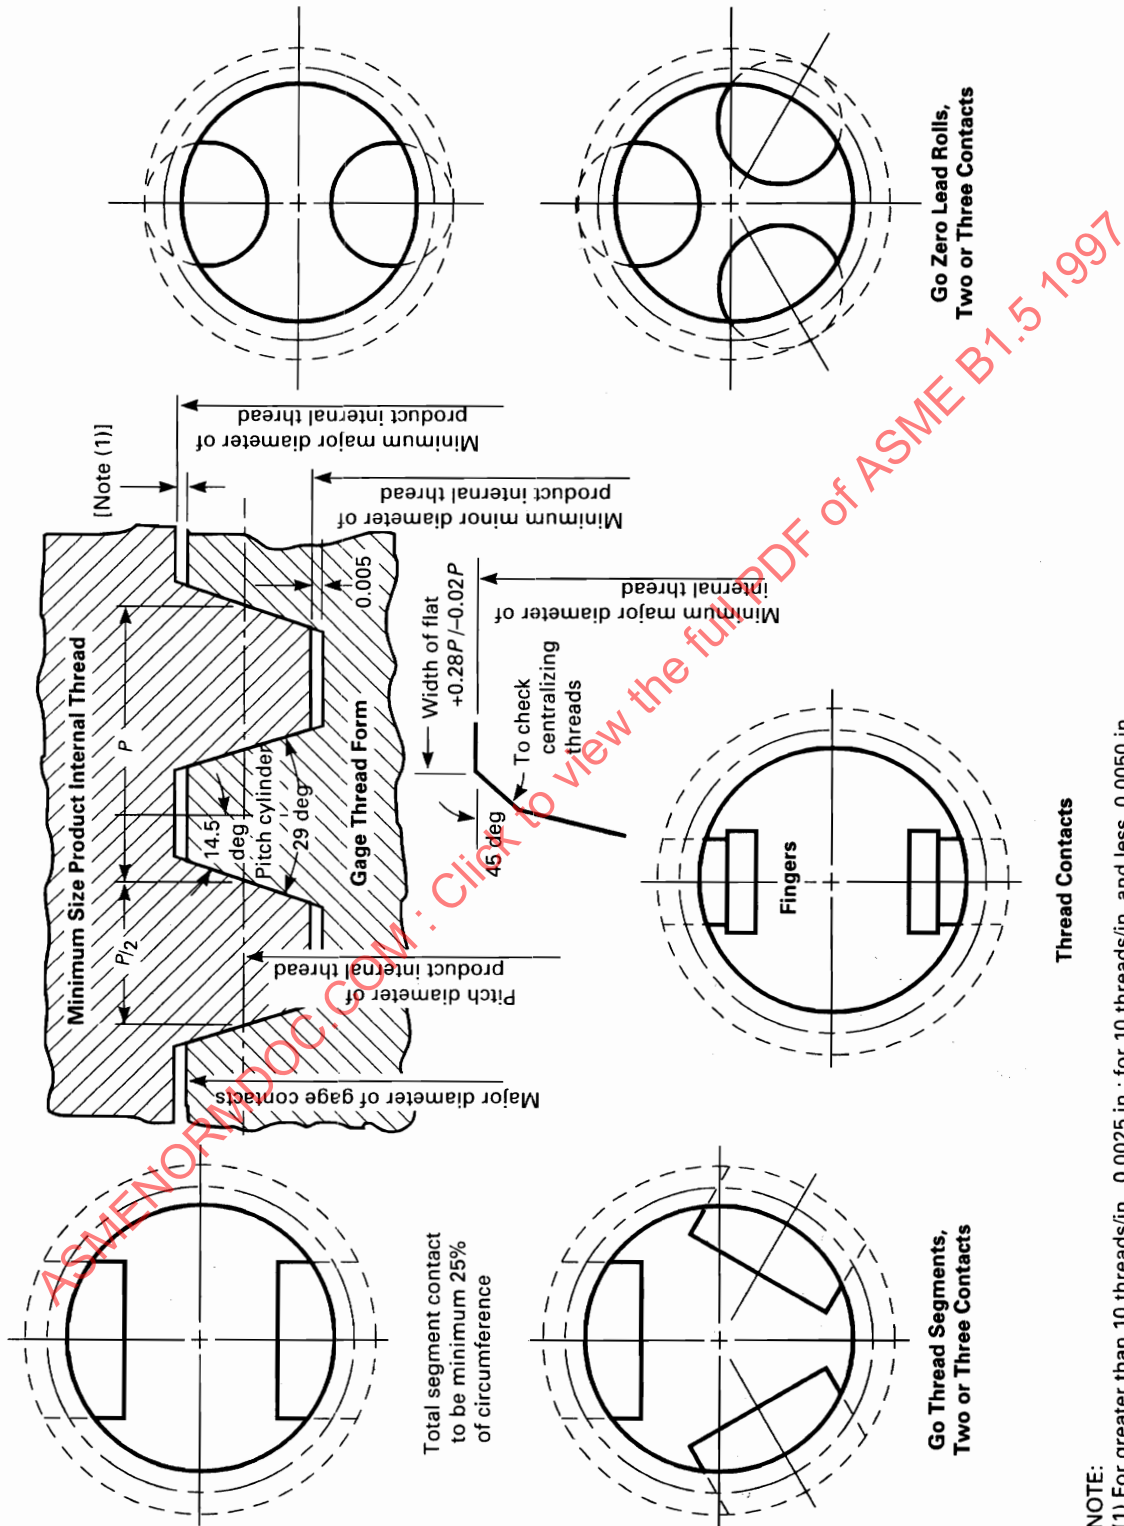
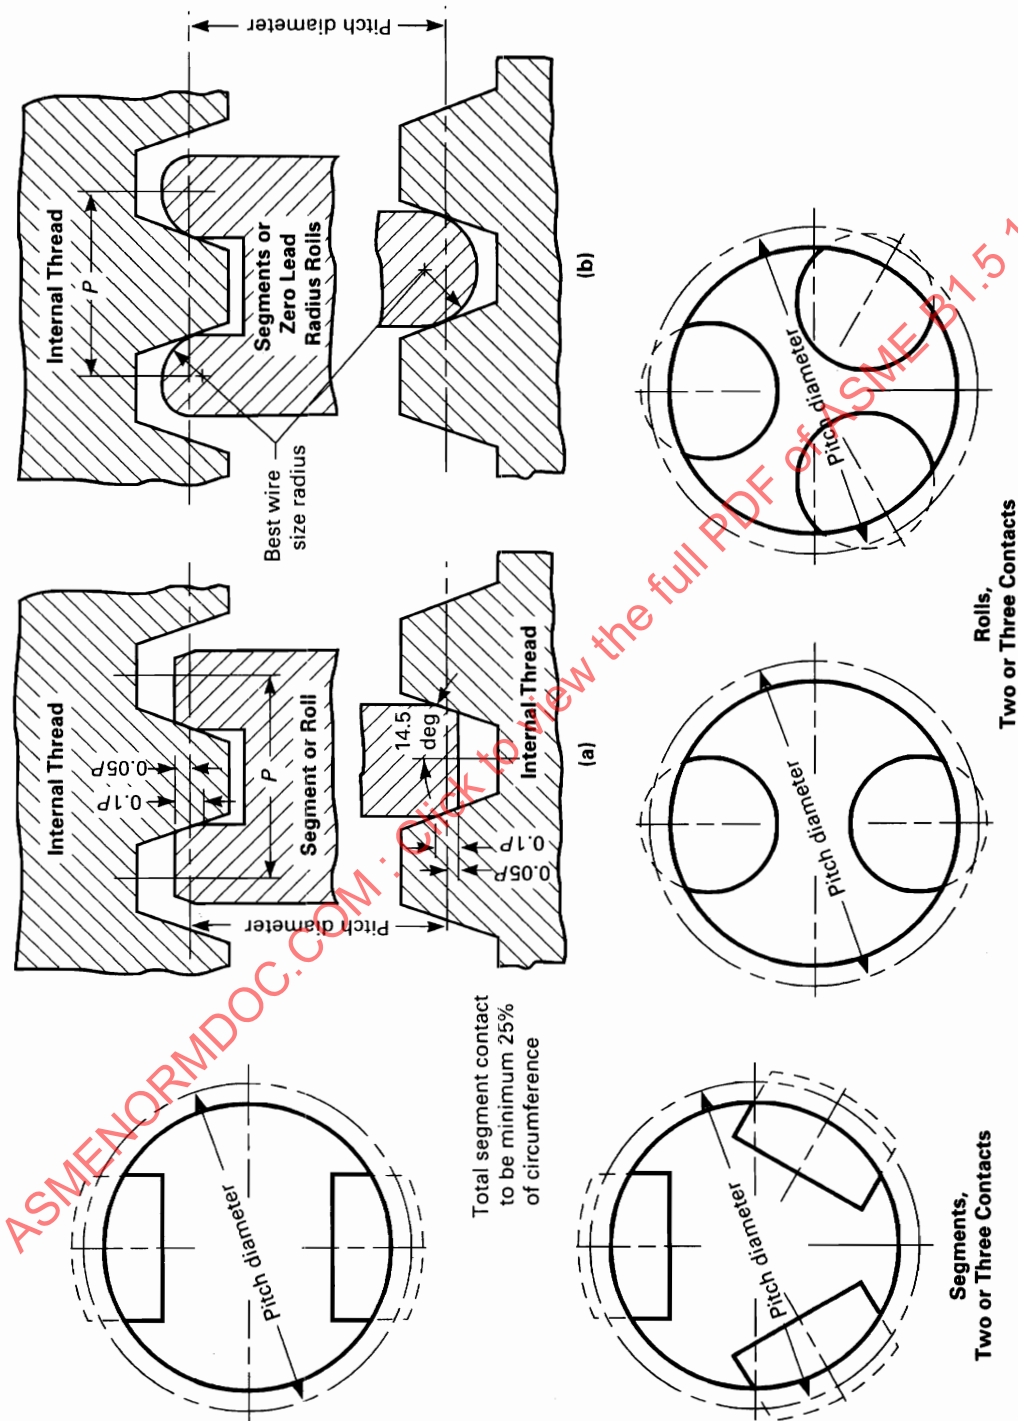

FIG. 20 INDICATING THREAD GAGES — MAXIMUM-MATERIAL GO FUNCTIONAL SIZE FOR INTERNAL THREAD
FIG. 22 INDICATING THREAD GAGES —
The differential gaging principle is explained in para. 4.5.10 for external threads. It is similar for internal threads and is illustrated in Fig. 27. The (Z) reading is taken with the maximum-material Go functional indicating gage illustrated in Fig. 20. The (Y) reading is taken with the full-form single cone and vee indicating gage illustrated in Fig. 28. The (X) reading is taken with the pitch diameter indicating gage illustrated in Fig. 22.